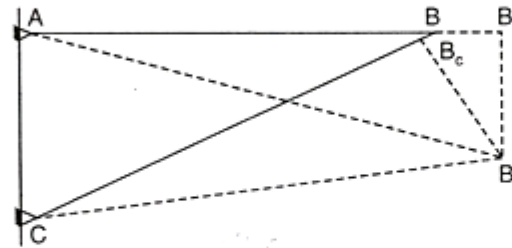
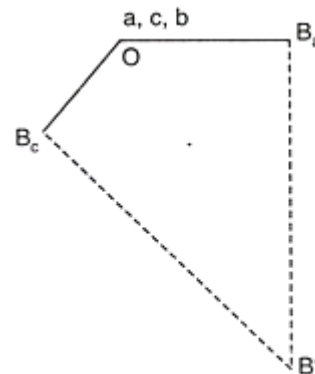

Fig. 1.34. Displacement diagram.
Fig. 1.35. Williot's diagram
A truss is made of several members which are in compression or in tension. So from the initial configuration, a truss would take a deviated (or deflected) position when loaded. This is due to the fact that compatible with the altered lengths of members due to strains there would be a different resultant position for each node. The changes in lengths are very small (in the order of $1/1000$). Hence a geometric construction taking into account the changes in length, for example BB_a and BB_c in Fig. 1.34 can give the changed position of B (B') only approximately. Notice that in Fig. 1.35, BB_a and BB_c are shown greatly magnified and not to the same scale as that used for the truss A B C.
Williot's diagram takes only the displacements in its graphical construction and develops the consequent displacements of the nodes. Hence for the truss in Fig. 1.34, the displacement diagram would be as in Fig. 1.35.
Fig. 1.34 and 1.35 differ only in minute details.
1. Fig. 1.34 relegates all un-displaced points to the origin. This would include the initial positions of all nodes in a truss.